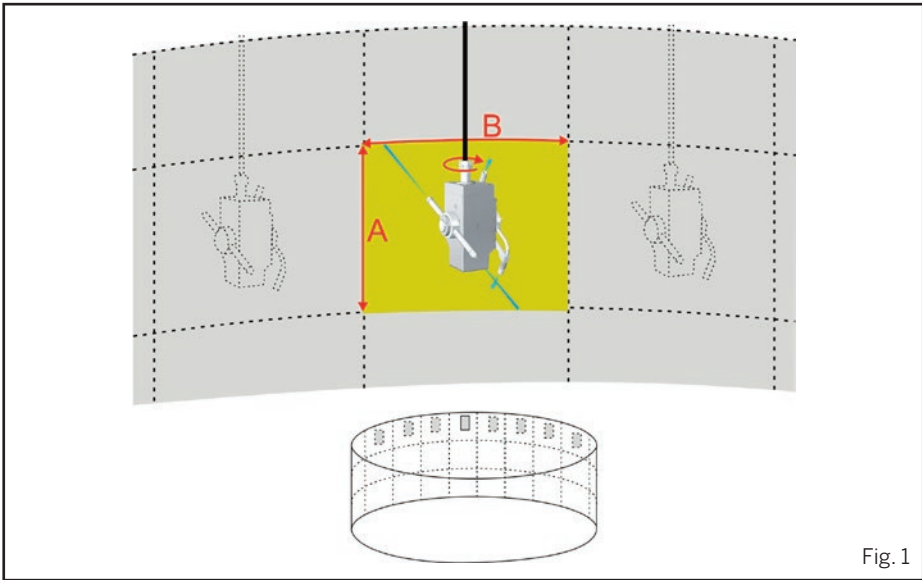

Fig. 1 - Very large diameter vessel
The cleaning time is reduced by an oscillating movement of the nozzle arm. The oscillation angle of the surface of the length (A) can be limited to 35° or 83°. The rotation around the vertical axis of the apparatus for the surface length (B) is preselected at 36° or 81°. When used in large containers (Fig. 1) the tank cleaning head is positioned at the vessel wall and cleans section by section.